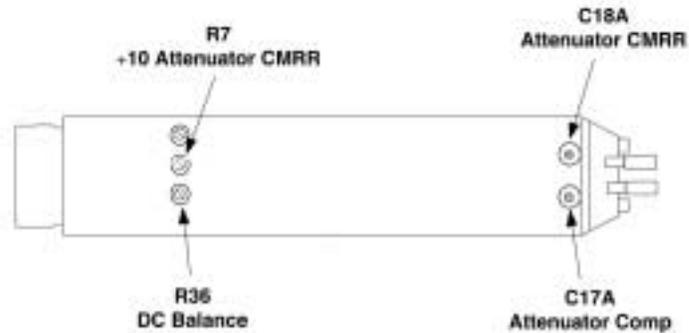

Figure 10. Probe Tip Adjustment Locations
7. Adjust **DC Bal** (R36) on the probe tip (Figure 10) to obtain a DMM reading of $0\text{ V} \pm 10\text{ mV}$.
12. Adjust **+10 CMRR** (R7) for minimum amplitude. (See Figure 10 for location.)
8. Adjust **Attenuator Comp** (C17A) for a flattop waveform. See Figure 10 for adjustment location.